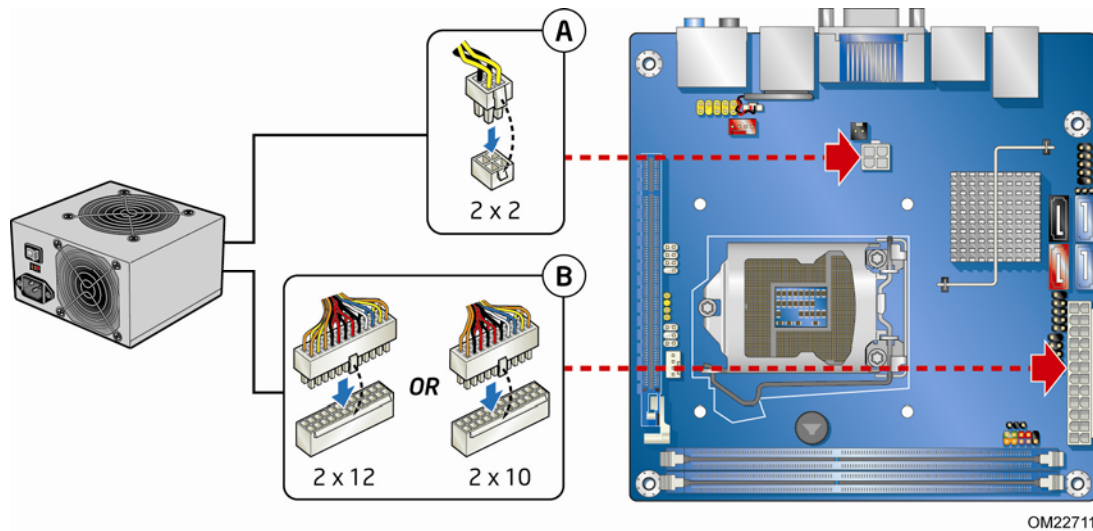

Figure 21. Connecting Power Supply Cables
Failure to use an appropriate power supply and/or not connecting the 12 V power connector (Figure 21, A) to the Desktop Board may result in damage to the board or the system may not function properly.
Figure 21 shows the location of the power connectors. The 2 x 12 pin main power connector (Figure 21, B) is backwards compatible with ATX12V power supplies with 2 x 10 connectors.
2. Connect the 12 V processor core voltage power supply cable to the 2 x 2 pin connector (Figure 21, A).
3. Connect the main power supply cable to the 2 x 12 pin connector (Figure 21, B).